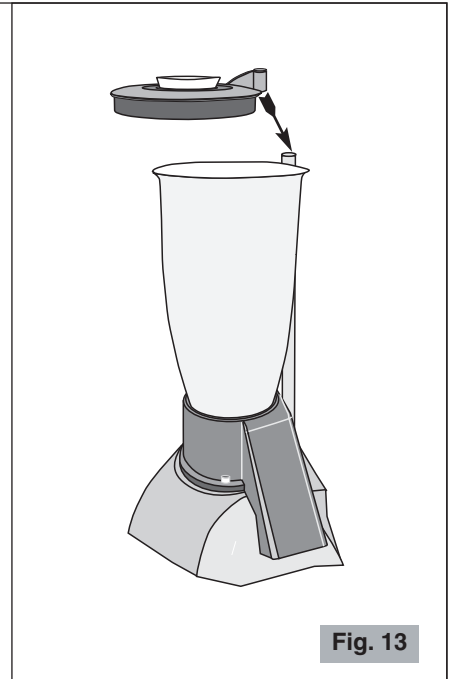

Fig. 13
- 4** Fit the lid on the container so that the magnetic sensor is in contact with the end of the safety arm (Fig. 13).